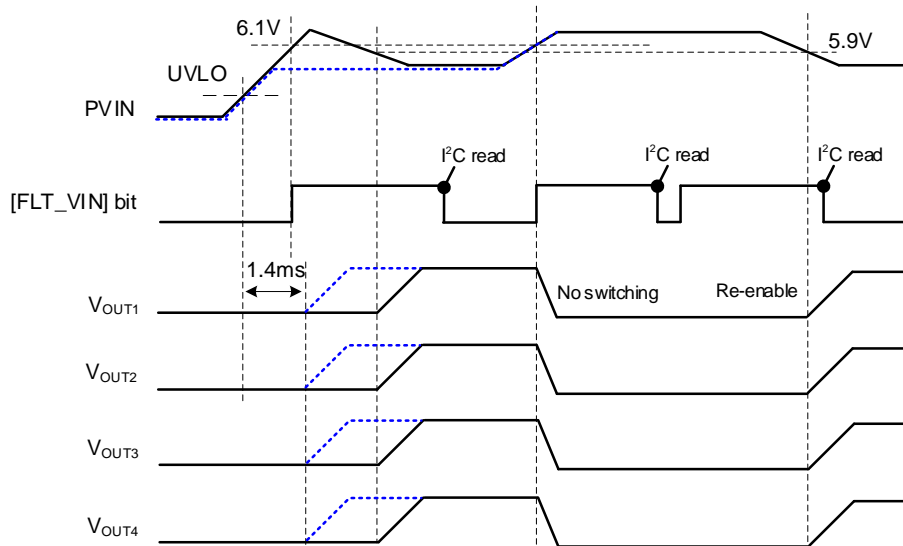

Figure 10. Input OV Protection
The SY70301 provides overvoltage (OV) fault detection to protect the input, as shown in Figure 10. If PVIN exceeds 6.1V, all channels are turned off. The OV protection hysteresis is 200mV. When PVIN decreases to 5.9V, all channels restart. Input OV fault detection is activated once the global EN pin is pulled high.